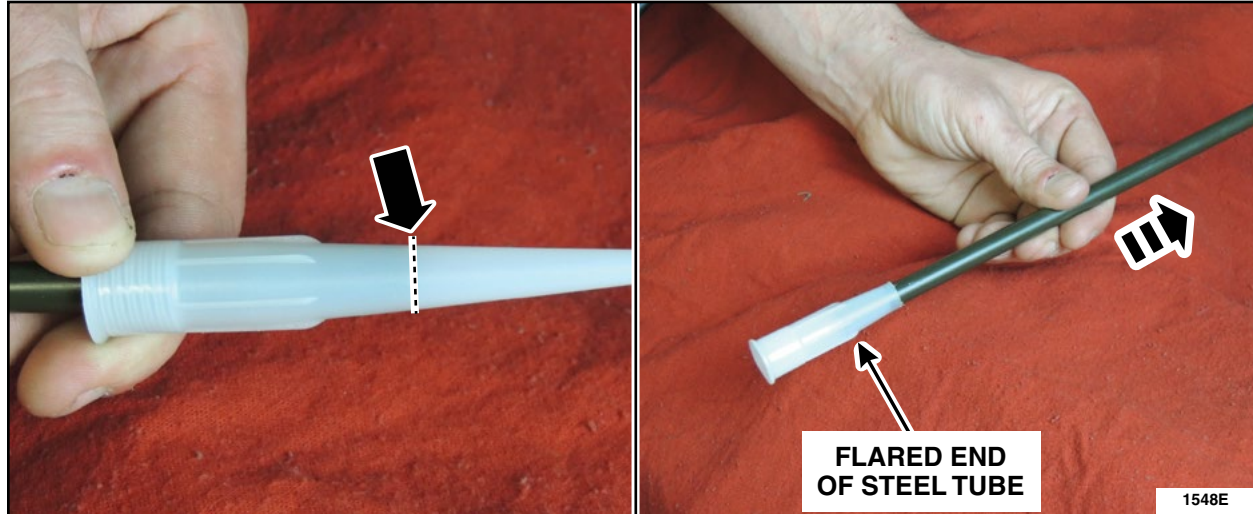

FIGURE 7
NOTE: Use Motorcraft urethane sealer TA-2-B and an application nozzle extension fabricated from 3/8" O.D. x 11" flared steel tubing to seal gaps in sheet metal. See Figure 7.
9. Attach the fabricated nozzle to a tube of Motorcraft TA-2-B or equivalent seam sealer. See Figure 7.